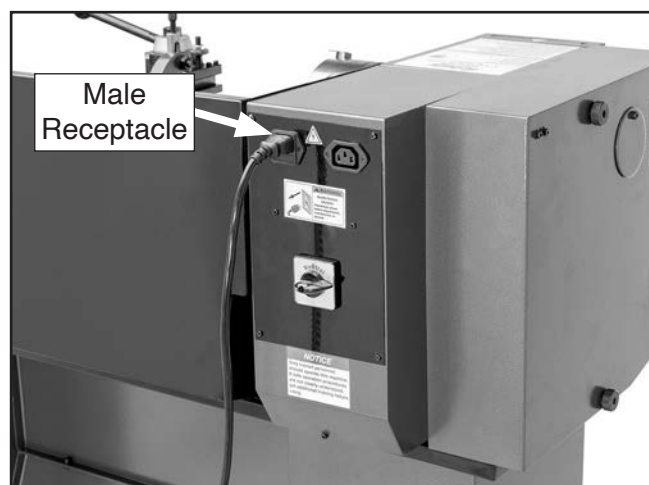

Figure 25. Power cord connected to lathe.
2. Connect power cord to male receptacle at rear of machine (see **Figure 25**).